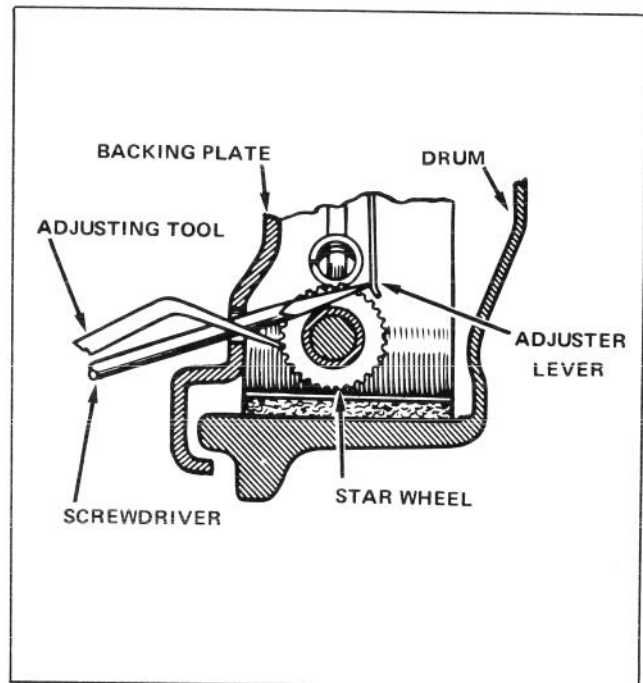

Figure 34
2. Remove wheel and drum. If shoes interfere with drum removal, hold adjuster lever away from star wheel as shown in Figure 34 while backing off adjustment.
Back off star wheel until drum is free of drag (20 to 30 notches). Use a screwdriver as shown in Figure 34 to hold adjuster lever away from star wheel while backing off adjustment.